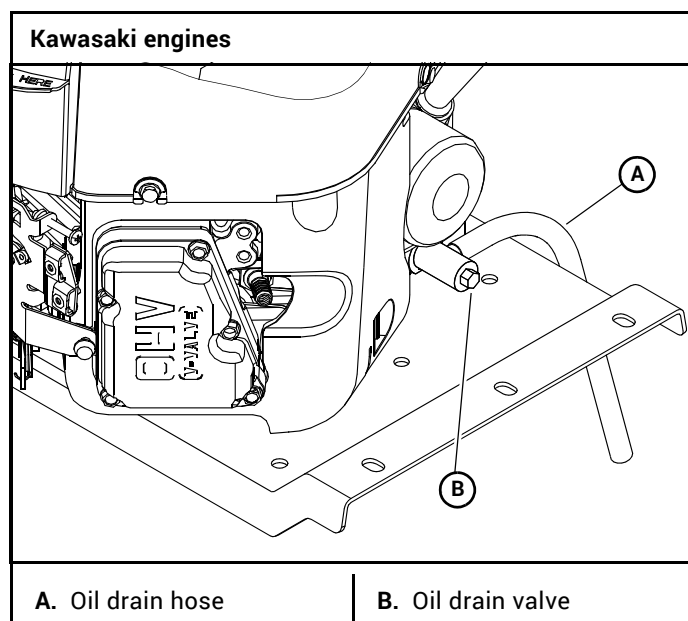
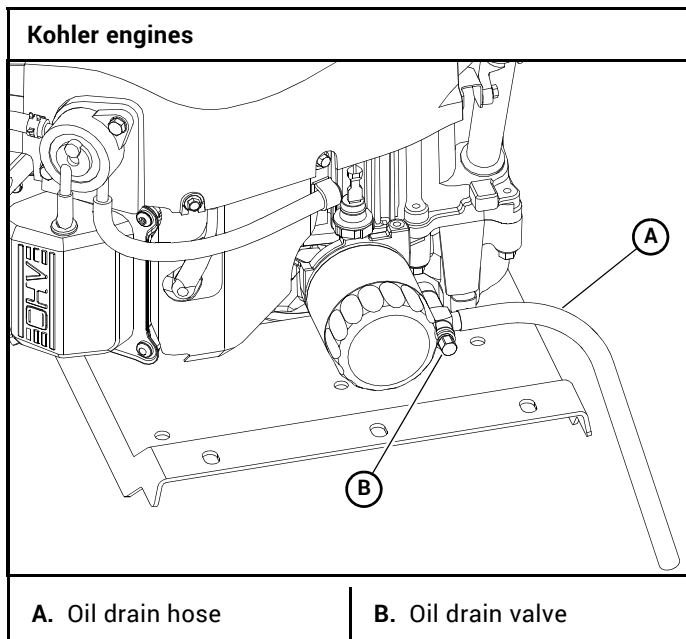

Figure 4-9
Figure 4-10
2. Locate the oil drain hose that was supplied with the machine. Be sure to clean and clear it of debris that might block the flow of the engine oil. Figure 4-9 & Figure 4-10
3. Attach one end of the hose onto the oil drain valve nipple. Make sure the hose is pushed all the way onto the valve. Figure 4-9 & Figure 4-10
8. Clean the oil drain hose and store it appropriately. Figure 4-9 & Figure 4-10